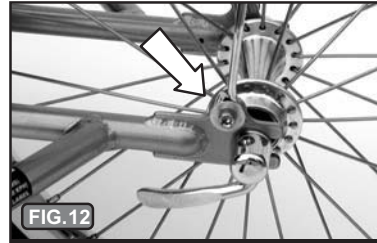

FIG. 12
C) Fender Attachment - The fender attaches to the trailer in three places. Begin by removing the screw and washers from the forward fender mount on the trailer frame. Attach the fender to the trailer by inserting the bolt and washer through the slot in the fender. Next place the second washer behind it (sandwiching the fender with washers) as shown in Fig. 11. Tighten the bolt securely with a 4mm Allen wrench. Next, attach the fender brackets to the left and right dropouts. Insert the bolt through the washer and then through the loop in the fender bracket as shown in Fig. 12. Align the bolt with the eyelet in the dropout and tighten securely with a 4mm Allen wrench.